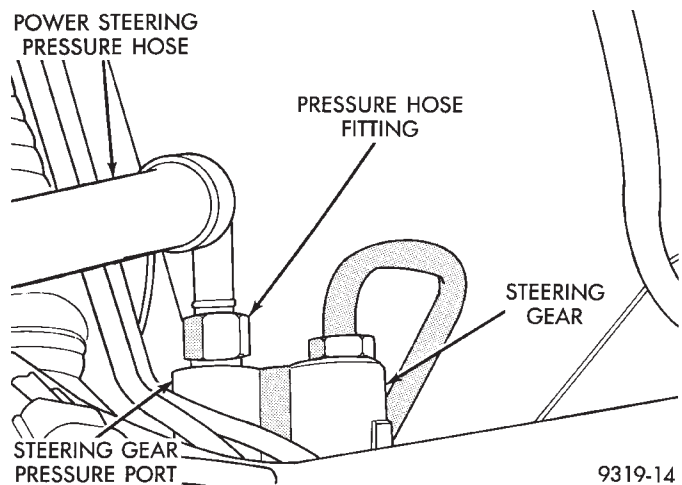

Fig. 1 Power Steering Hose To Steering Gear Fitting
- (1) Position drain pan under vehicle for leaking power steering fluid. Loosen and remove the power steering pressure hose fitting (Fig. 1) from the power steering gear. Let power steering fluid drain from hose.
(5) Install power steering pressure hose into pressure port of the power steering gear (Fig. 1). Then torque the power steering pressure hose to steering gear fitting to 31 N•m (23 ft. lbs.).